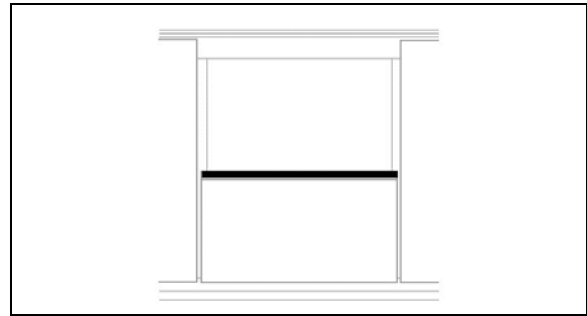

FIGURE 59 : HALF-WINDOW INSTALLATION – SIKA AKTIVATOR
6. **HALF-WINDOW ONLY:** clean the sliding or awning window frame with anti-silicone and then, apply Sika Aktivator as shown on FIGURE 59;